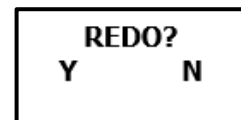

Figure 4.5-4: Redo
5. If the Redo Screen setup parameter is enabled (refer to Section 6.3 – Operating Modes), the operator will be prompted to "Redo" (Figure 4.5-4) after a "FAIL" message.